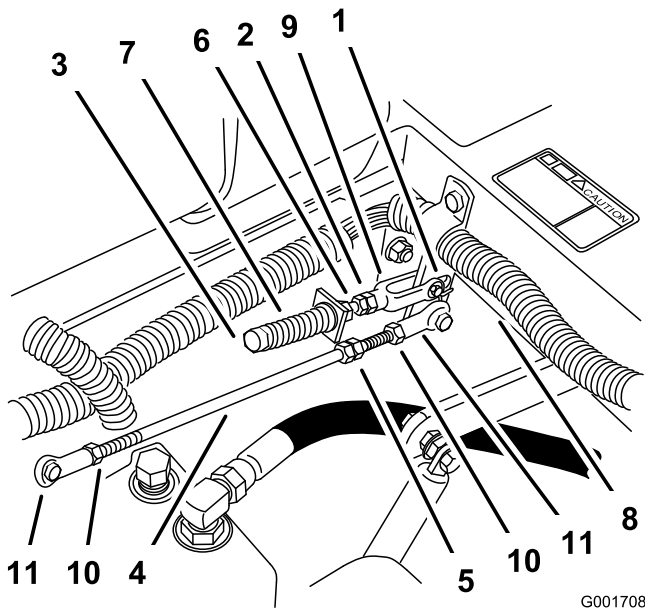

Figure 67
1. Loosen the locknuts at the ball joints on the pump control rod (Figure 67).
3. Adjust the pump rod length by rotating double nuts on rod, in the appropriate direction, until wheel is still or slightly creeps in reverse (Figure 67).
6. Tighten the locknuts at the ball joints (Figure 67).